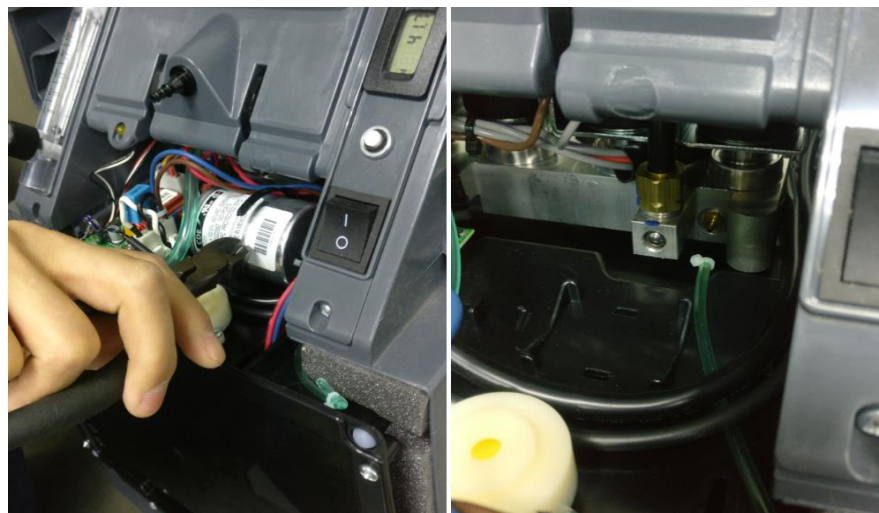

Figure 1
2. Cut off the cable tie of the capacitor. Remove the capacitor and cable tie. Pull off the PVC tube (TU152-1 or TU 152-070). See figure 1.